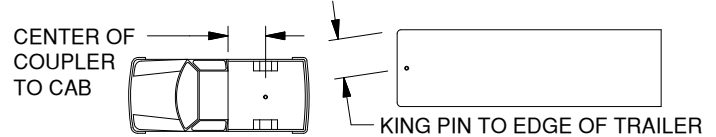

Figure C2: Truck and Trailer
3. **Evaluate clearance.** Determine if there is clearance between each truck and trailer combination before towing. Measure from the center of the coupler to the cab of the truck and from the king pin or pivot point of the trailer to the furthest forward corner of the trailer, see Figure C2. Compare these measurements to ensure proper clearance when towing. Also, inspect the clearance between the bed sides and the underside of the front of the trailer to ensure there is room for the pitch and roll of the trailer while towing.